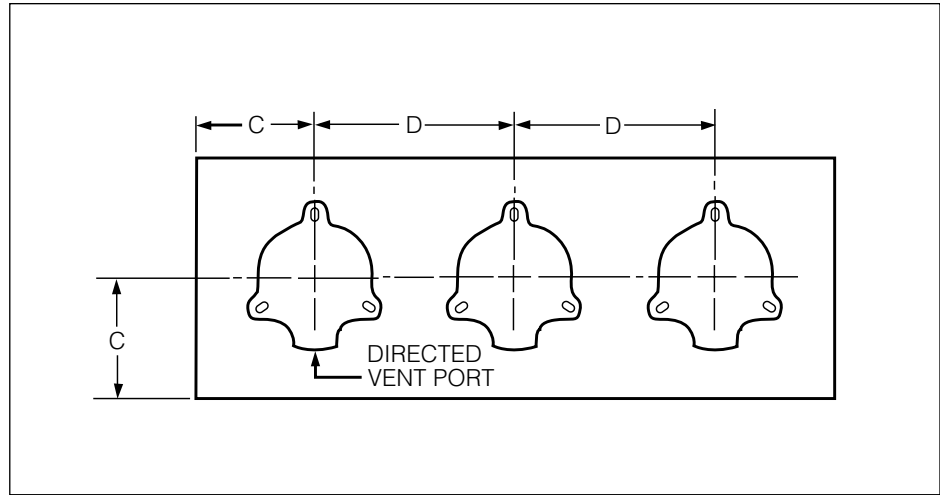
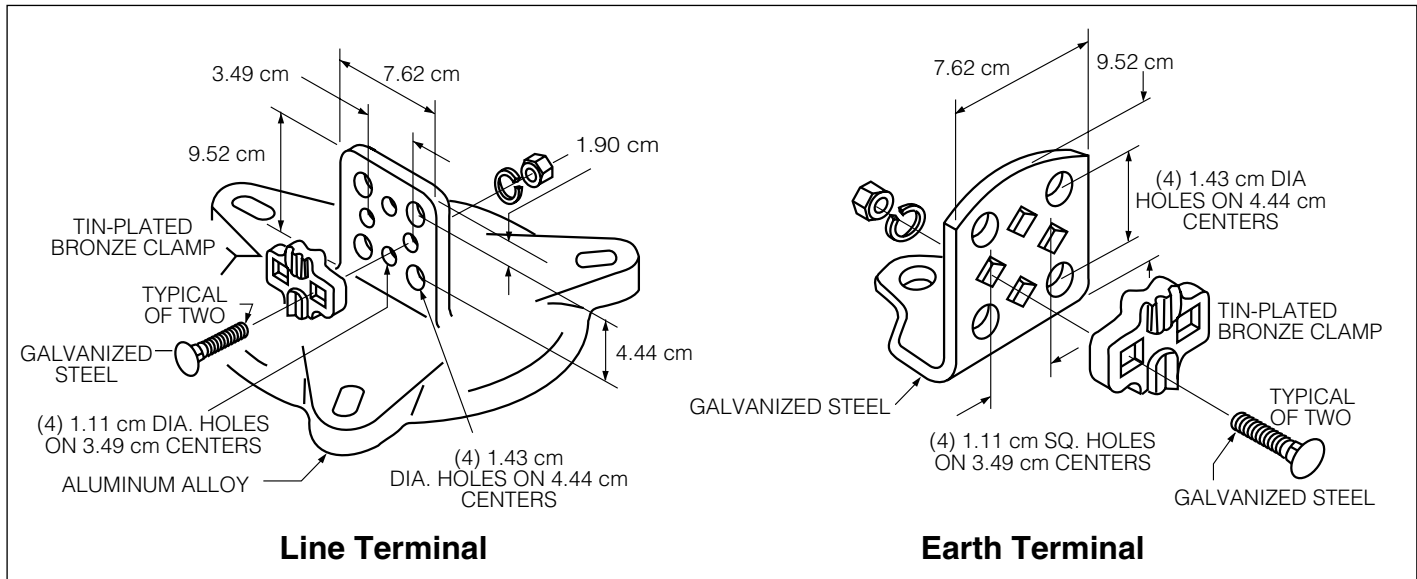
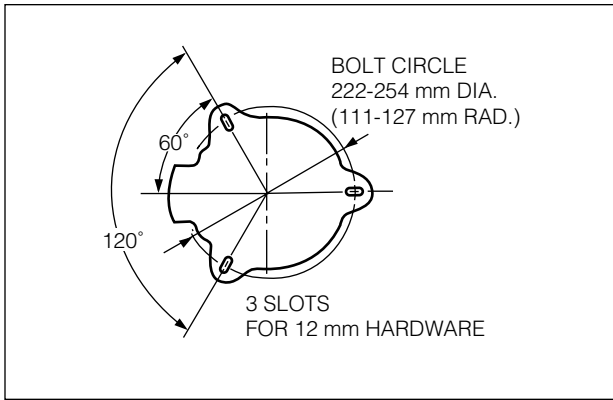
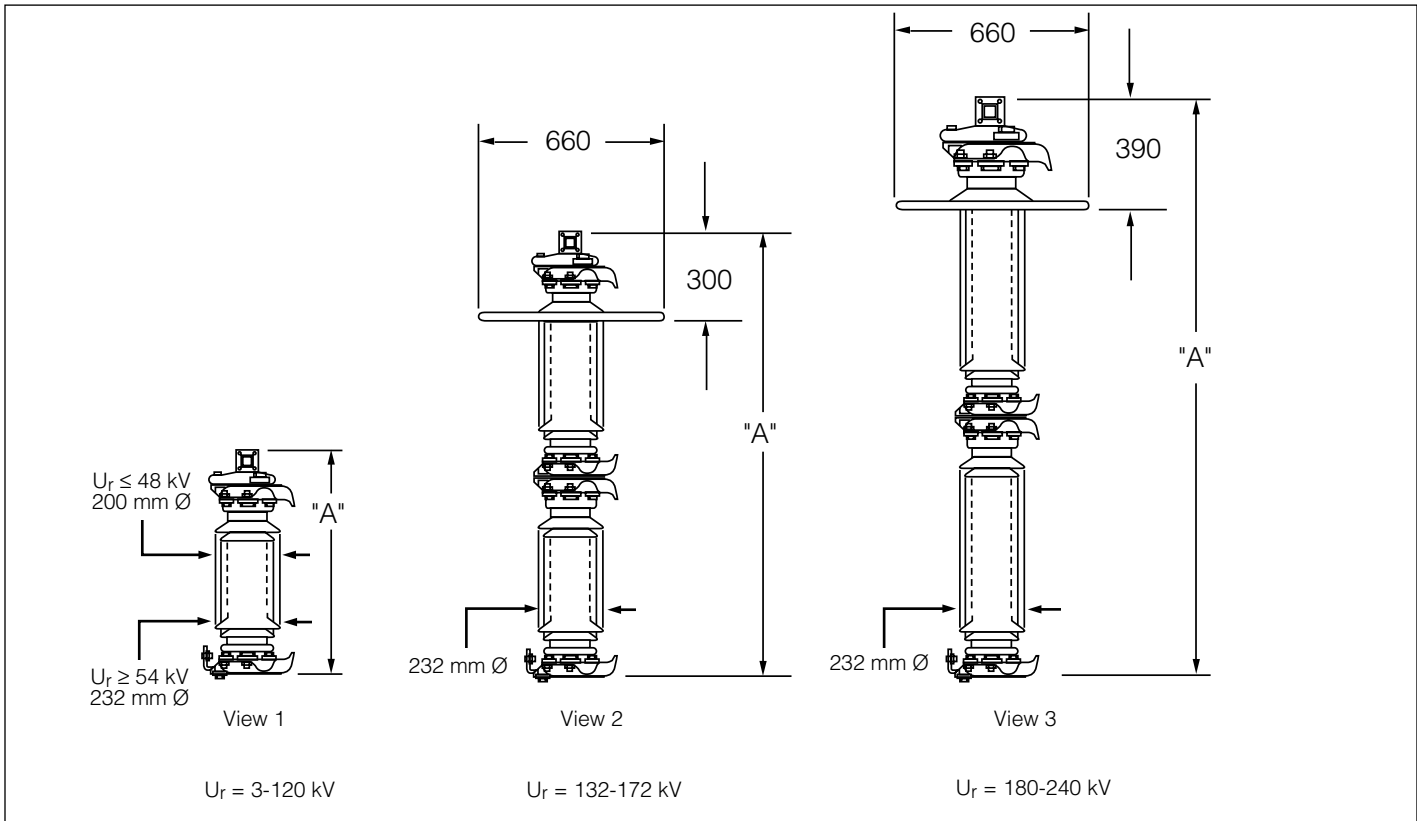

Figure 4.
Figure 5.
Figure 6.
Figure 8.
Figure 4 illustrates an in-line mounting arrangement; the applicable values of “C” and “D” may be found in Table 5. Line and earth terminal details are shown in Figure 5; the supplied terminals accommodate aluminum and copper conductors to a maximum size of 335 mm². For other conductors the terminal drilling pattern shown will accommodate industry standard two (2) and four (4) hole flat pad connectors. Figure 6 provides the dimensional details for universal base mounting.
Catalog Numbers and Dimensional Information (See Figures 4 & 8)
5. Refer to Figure 4 for illustration of dimensions C and D and Figure 8 for dimension A.